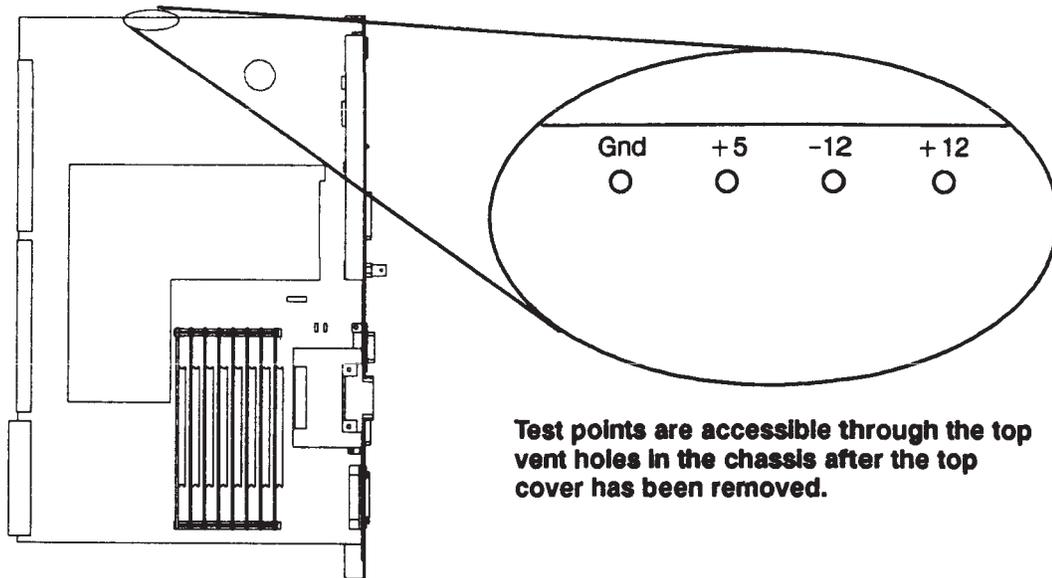

Figure 4-21. Model 400s System Unit CPU Board Voltage Test Points
3. Plug in the power cord and power on the system. Measure the + 5, -12 and +12 voltages on the CPU board test points through the holes in the top of the chassis as shown in Figure 4-21. To measure the -5 and + 9 V dc, you must open the power supply drawer and measure it at the connector.